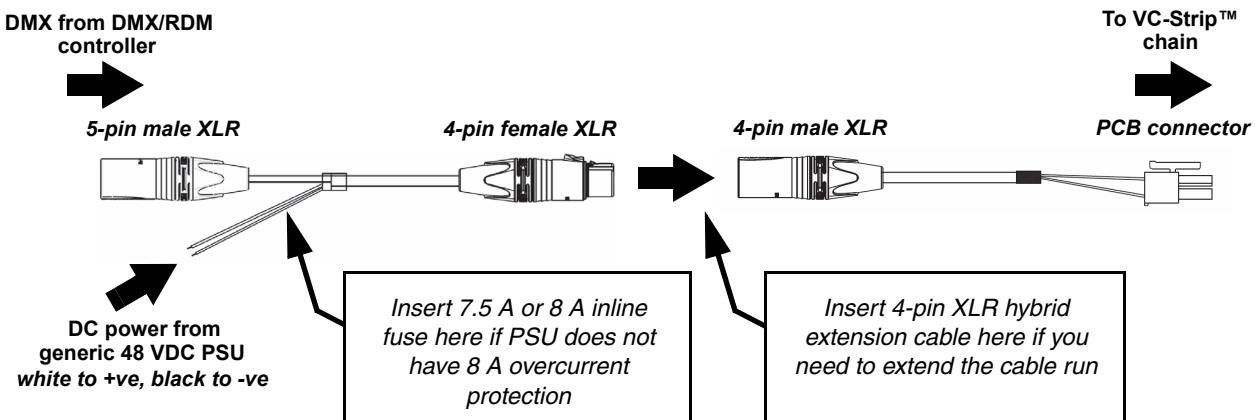

Figure 9: Generic PSU and DMX connections to a VC-Strip chain
5. See Figure 9. Connect a Martin™ hybrid-to-PCB adapter cable (P/N 11840158) to the first VC-Strip of each chain.
7. See Figure 9. If the PSU does not have constant overcurrent protection that will limit current to 8 A on the DC output used, install an inline fuseholder with a 7.5 A or 8 A fuse on the white (+ve) power wire of a Martin™ hybrid lead-in cable (P/N 11840171). A 30 amp automotive-type inline fuseholder with a 7.5 A blade fuse can be used. Connect the power wires on the lead-in cable to a DC output on the PSU. Connect the white wire to positive (+ve) and the black wire to negative (-ve).